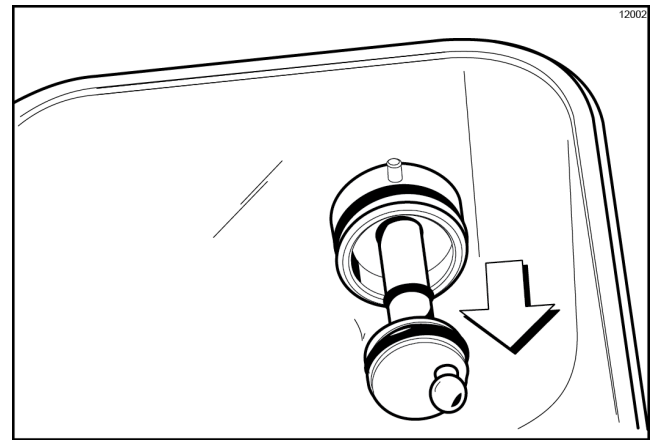

Figure-105
**Note:** Remove the pump driveshaft from the drive hub in the rear wall of the mix hopper. (See Figure-105.)